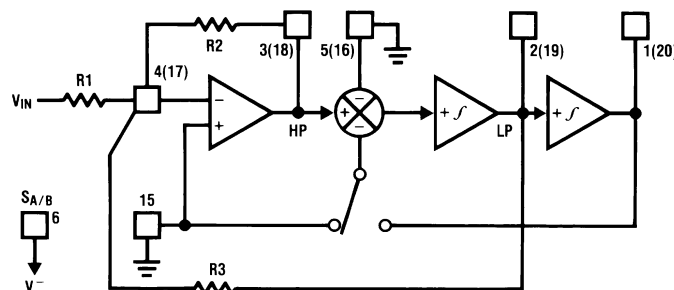

Figure 48. MODE 6a
8.4.1.9 MODE 6a: Single-Pole, HP, LP Filter (See Figure 48)